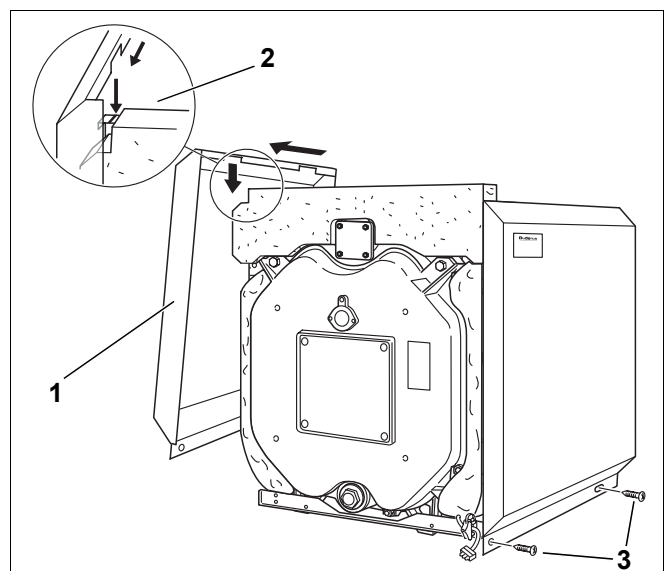

Fig. 35 Side casing installation
- Hook the side casing (Fig. 35, **Item 1**) with cut outs into the slots of the upper cross support bracket (Fig. 35, **Item 2**) and push forward against the end stop (see arrow in Fig. 35).
- With two self-tapping screws each secure the side walls at the bottom (Fig. 35, **Item 3**).